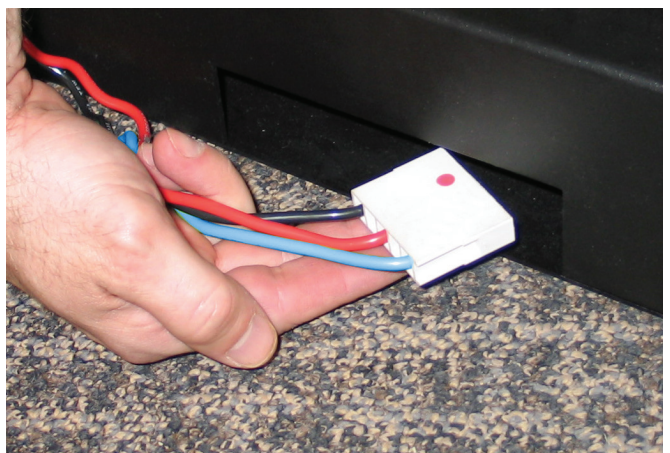

Figure 9
- 8 Braid the wires for neatness (figure 9). Refer to the connector block diagram blow. With the dot up, insert the connector contacts into the white connector block until they lock.
- 9 Attach the edge connector block to the edge of the PC board with in the electronics box (figure 9). Make sure that the dot is upwards. Reconnect the electronics box to the wooden frame. Reconnected your completed CLSs to your amplifier and AC power cord.